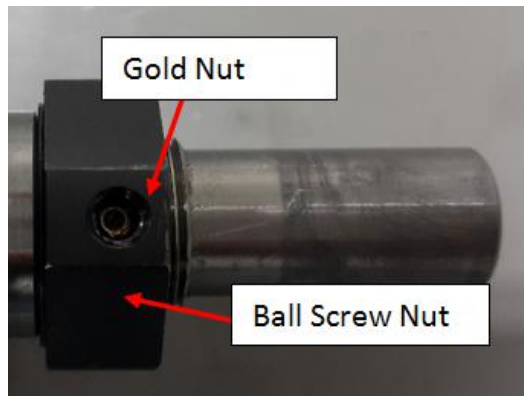

Figure 6 Gold nut removal
9. Gently remove Gold Nut as below Figure 6.